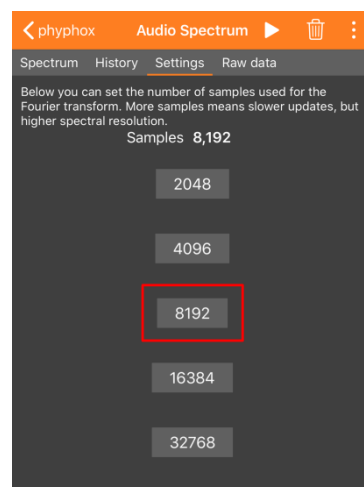

Fig. 5: Change the # of samples to 8192. If you close the tool, it will reset.
3. In the settings tab, change the number of samples to 8192 (see Fig. 5). A higher sample rate measures more accurately, but it also updates less often. 8192 is a good compromise between accuracy and speed.